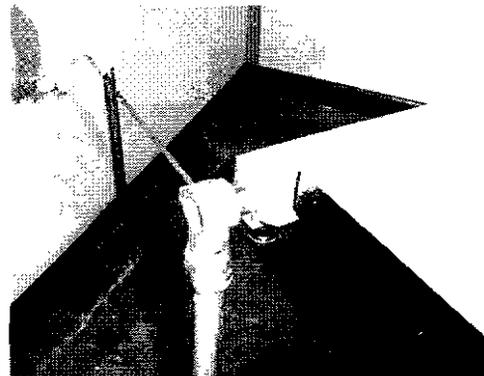

Figure 4
9. Tighten the Knobs (11) of the Saw Table, to hold the Connector Tubes in place.
11. Adjust each Telescoping Leg to support the end of the Router Table. (See Figure 4)